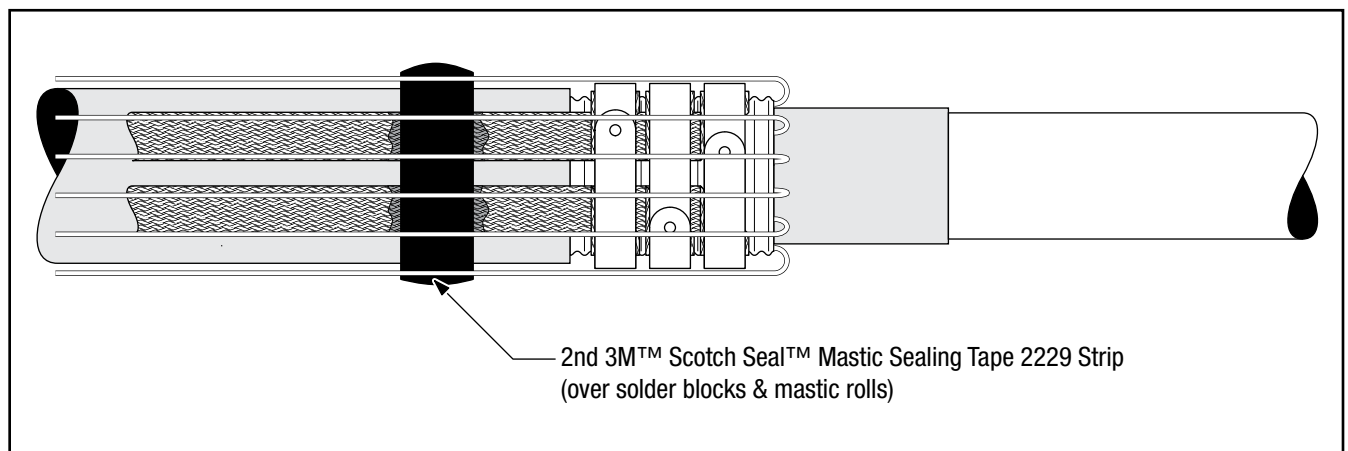

Figure 8
- 2.6 Select the roll of 1" (25 mm) wide 3M™ Scotch-Seal Mastic Sealing Tape 2229 from the kit and cut a length of the mastic long enough to cover the ground braid solder blocks and previously applied mastic. Using light tension, apply a **SINGLE WRAP** of mastic around the cable jacket over the ground braid solder blocks and the previously applied mastic. Fold the shield wires, evenly spaced, back over the mastic. (*Figure 8*)